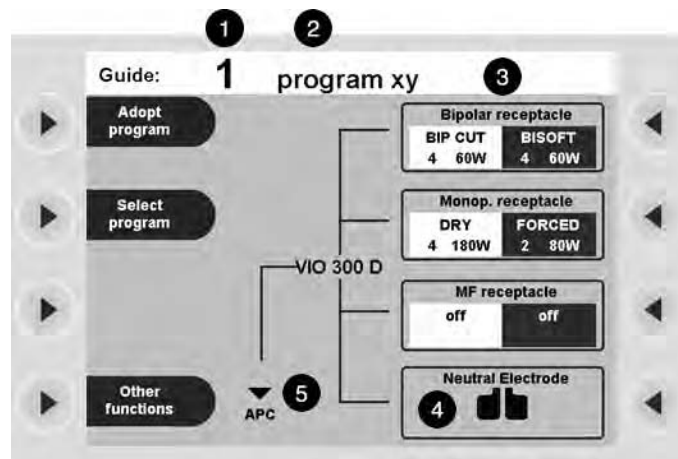

Fig. 5-1
Once the performance test (self check) has been completed, you will see the window Guide. Here you can see in Fig. 5-1 the number (1) and the name (2) of the active program. In this example it is program 1 *program xy*.
On the right side of the window you can see the assignment in Fig. 5-1 (3) of the receptacles. The receptacles of your individual unit are displayed schematically. This provides you with answers to the questions: which CUT/COAG Mode, which effect, what capacity are active for which receptacle.
If the unit is equipped with a Neutral receptacle for a return electrode, the electrode symbol will be displayed on the screen. See Fig. 5-1 (4).
See Fig. 5-1, The symbol of the Down button (5). Underneath you can see APC (i.e., a compatible APC is connected to the electrosurgical unit.) If you press the Down button on the front panel of the electrosurgical unit, the window scrolls down to the APC receptacle.